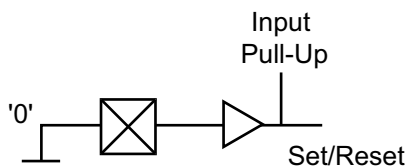

Figure 2-9 • Flash*Freeze Self-Reset Circuit
- If the intention is to always set/reset in Flash*Freeze mode, a self set/reset circuit may be implemented to accomplish this, as shown in Figure 2-9. Configure an active High set/reset input pin so it uses the internal pull-up during Flash*Freeze mode, and drives Low during active mode. When the device exits Flash*Freeze mode, the input will transition from High to Low, releasing the set/reset. Note that this circuit may release set/reset before all outputs become active, since outputs are enabled up to 200 ns after inputs when exiting Flash*Freeze mode.